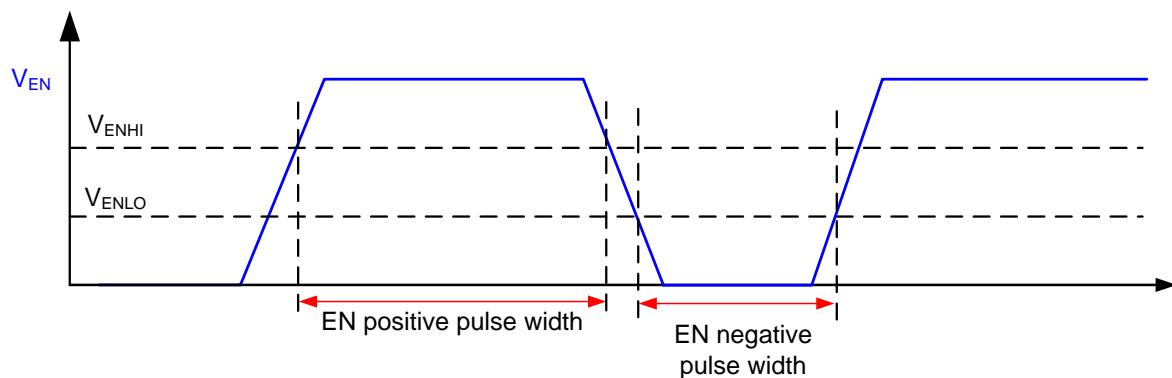

Figure 15B: Enable timing waveform
This pin is used to activate the IC "sleep" mode by pulling the voltage level below 1.6V (typ). In sleep mode the IC will consume a minimum amount of current. All switching functions will be disabled and the gate will be inactive. The EN pin voltage cannot linger between the Enable low and Enable high thresholds. The pin is intended to operate as a switch with the pin voltage either above or below the threshold range. The Enable control pin (EN) is not intended to operate at high frequency. For proper operation, EN positive pulse width needs to be longer than 20 μ s, EN negative pulse width needs to be longer than 10 μ s. Please refer to Figure 15B for the definition of EN pulse width.